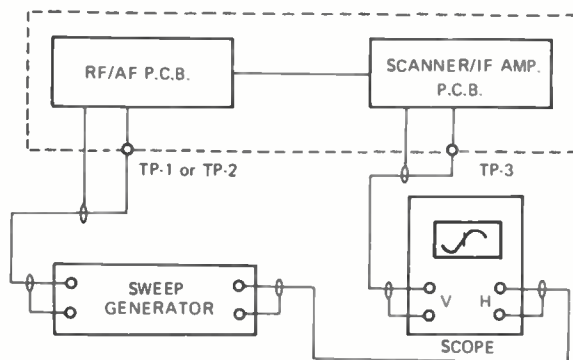

FIGURE 6
- Step 1: Connect instruments as shown in Fig. 6.